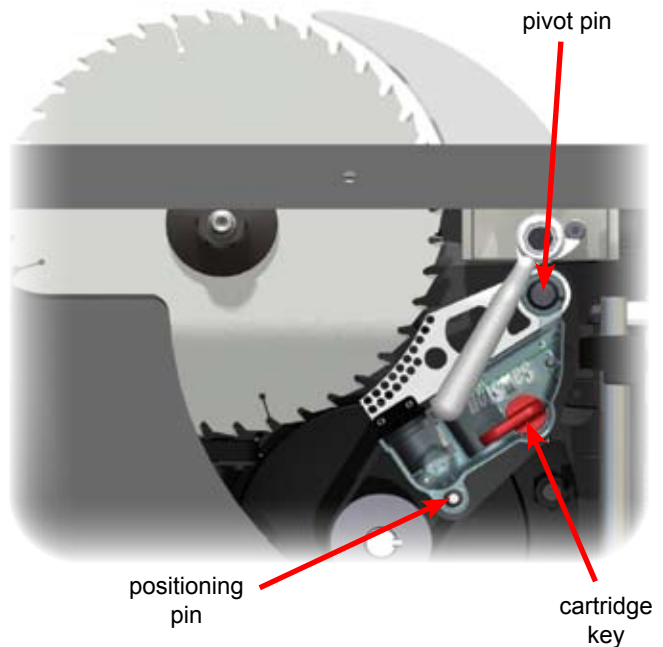
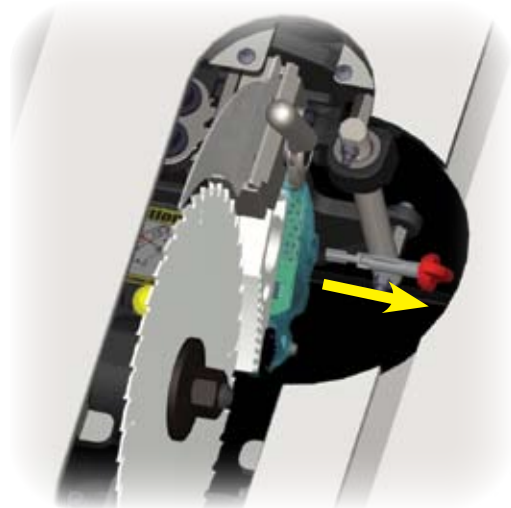

Fig. 93
Fig. 94
The brake cartridge is mounted on a large pivot pin and a smaller positioning pin as shown in Fig. 93. Both the pivot pin and positioning pin extend outward from a cartridge mounting bracket that sets the position of the cartridge. The cartridge mounting bracket also holds a computer cable that self-aligns to the connector in the side of the cartridge. A cartridge key is used to lock the brake cartridge in place against the cartridge mounting bracket.
To remove the cartridge, first remove the cartridge key by turning it 90° clockwise and then pulling it away from the cartridge (see Fig. 94). Set the cartridge key aside for use with the new cartridge.
If the cartridge has been activated, the brake pawl typically will be locked onto the blade or dado set. As a result, it is usually easiest to remove the blade and the brake cartridge together. To remove the cartridge and blade together, first remove the blade nut and washer, and then remove the cartridge key by turning it 90° clockwise and pulling it away from the cartridge (see Fig. 94). You can remove the blade and brake cartridge simultaneously by alternately moving the blade and then the cartridge to the right to “walk” them off the arbor and pins. Often you can “walk” them to the right by hand, but if not, you can use a blade wrench as a lever. To do this, place one end of the wrench between the blade and the side of the arbor block, being careful to maneuver around the dust shroud. Now push the blade a short distance away from the arbor flange (see Fig. 96 on the next page). **Do not place the wrench against the dust shroud because the dust shroud could break.** Next, place the end of the wrench between the brake pawl and the cartridge mounting bracket to gently pry the cartridge away from the arbor block a short distance (see Fig. 97 on the next page). Only move the blade and cartridge a short distance each step, for example, a distance equal to one or two threads on the arbor. Otherwise the brake cartridge may bind on the arbor and pivot pin. Repeat these alternating steps to walk the cartridge and blade off. A significant force may be needed to pry the cartridge off the mounting pin if the brake pawl deformed and pinched the pivot pin when it stopped the blade.
To install a brake cartridge, the above process is reversed. Align the mounting holes in the cartridge with the pivot pin and positioning pin in the saw (see Fig. 93 on page 59.) Slide the cartridge onto the pins until the cartridge rests against the mounting bracket. The cartridge will automatically align with a computer cable mounted in the saw.
Next, insert the cartridge key into the hole in the cartridge housing (see Fig. 94 on page 60). The key shaft has a ridge that must be aligned with a channel in the hole. As a result, the key can only be inserted into the hole when the red handle is pointing toward the brake pawl (as shown in Fig. 94 on page 60). Insert the key fully into the hole and rotate the key 90° counter-clockwise to lock the cartridge in place (Fig. 93 on page 59 shows the key in its locked position). The key will not rotate unless it is fully seated against the side of the cartridge housing and the cartridge housing is pressed against the cartridge mounting bracket.